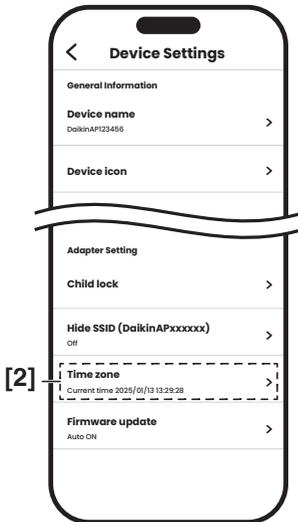

Fig. 2
2. Tap [2] “Time zone” on the screen. Fig. 2